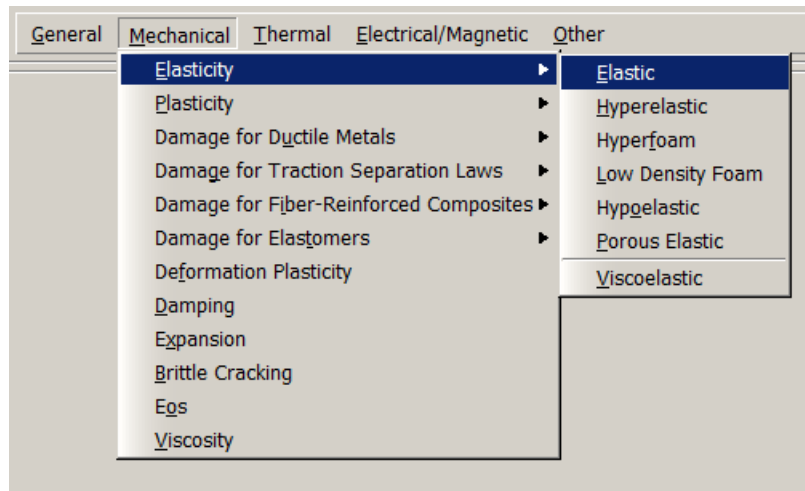

Figure L1-15. Material pull-down menu.
4. From the material editor's menu bar, select **Mechanical**→**Elasticity**→**Elastic**, as shown in Figure L1-15.